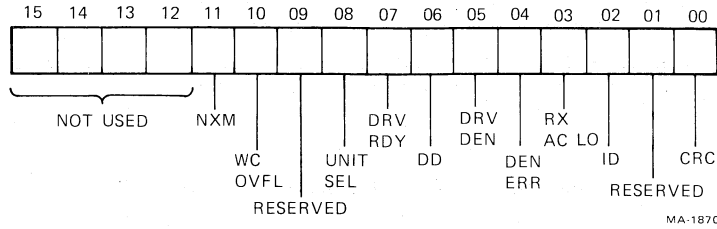

Figure 4-30 RX2ES Format (RX211/RXV21)
4.3.2.8 RX2ES – RX Error and Status (Figure 4-30) – This register contains the current error and status conditions of the drive selected by bit 4 (Unit Select) of the RX2CS. This read-only register can be addressed only under the protocol of the function in progress (Paragraph 4.3.3). The RX2ES is located in the RX2DB upon completion of a function.